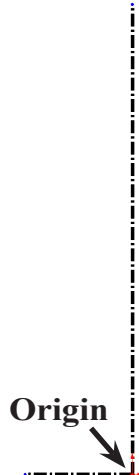

Fig. 2
Step 3. Click **Centerline**  (S) in the **Line flyout**  on the Sketch toolbar.
Step 4. Starting at the **Origin** , draw a **vertical centerline** up from the Origin and **horizontal centerline** out to the left, **Fig. 2**.